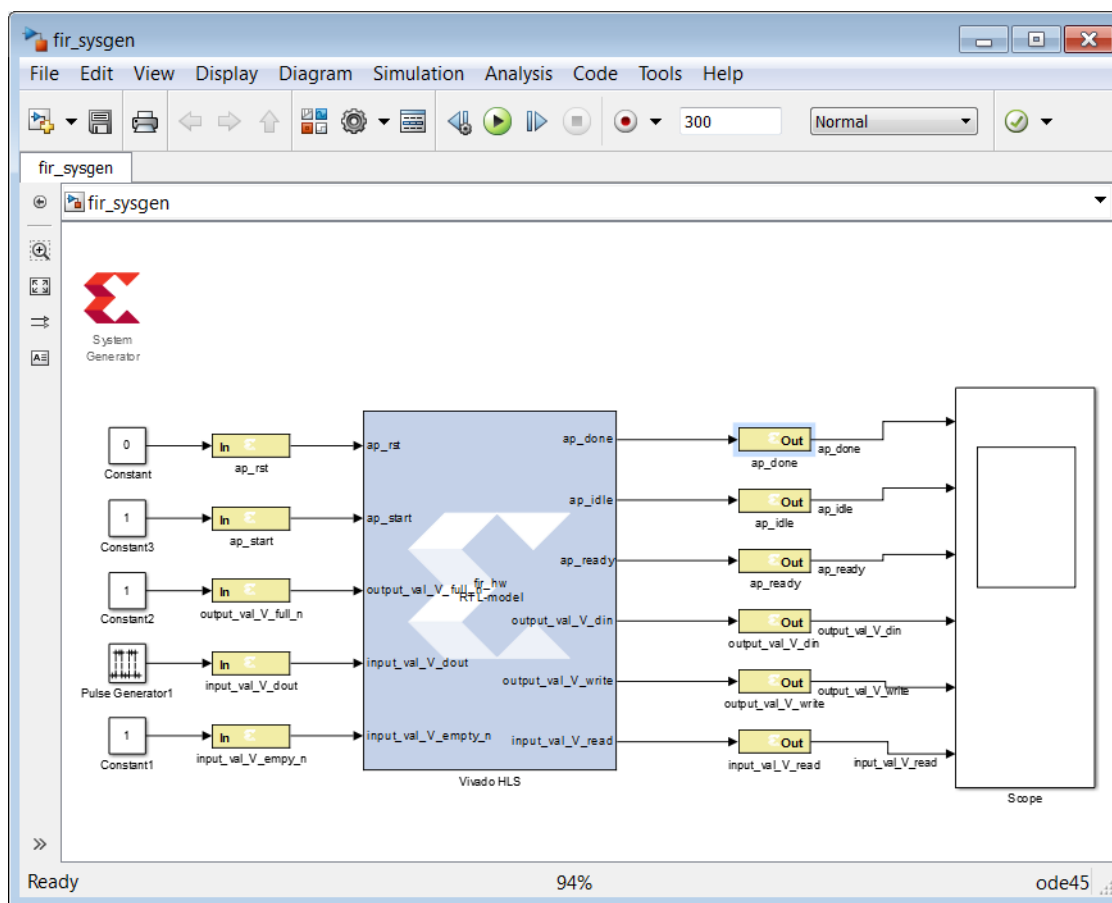

Figure 11-8: Design with All Connections
10. Connect the design I/O ports to the ports on the FIR IP block, as shown in Figure 11-8.